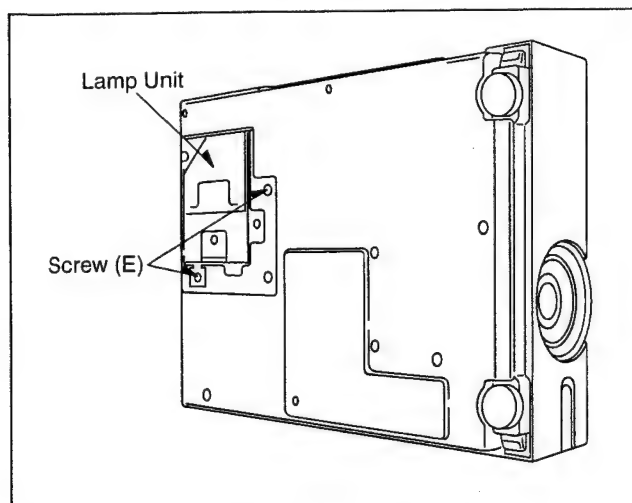

Fig. D6
1. Loosen 2 screws (E) as shown in Fig. D6.